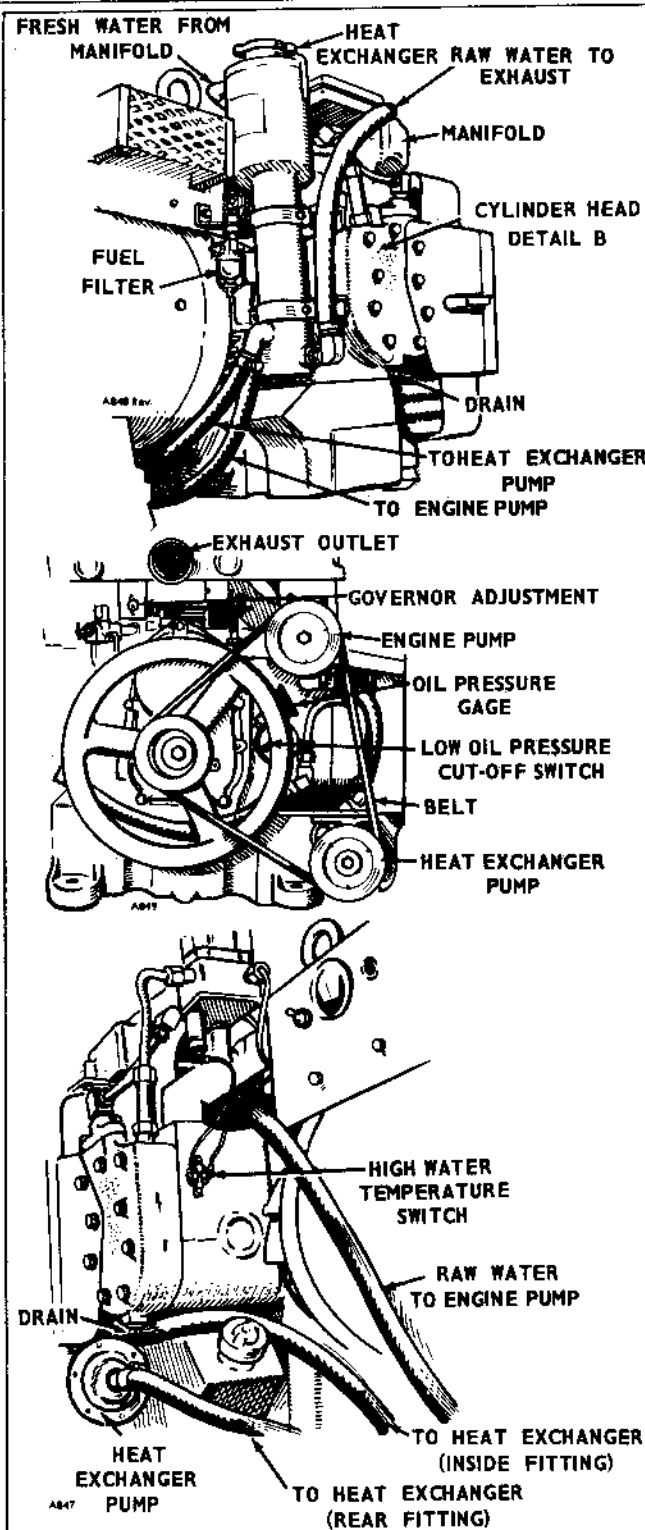

Figure 9. Cooling System Details
**Caution:** Do not use the existing neoprene impeller water pump in the hot water side of the cooling system. Heat or soluble oil (in many rust inhibitors and anti-freeze s) will damage the impeller. Instead, connect the neoprene impeller pump on the cold water side. Use a metal impeller, centrifugal-type water pump (Oberdorfer 1-GP, or equal) in the fresh water side. Drive it with a belt from the plant power take-off (see Fig. 9).